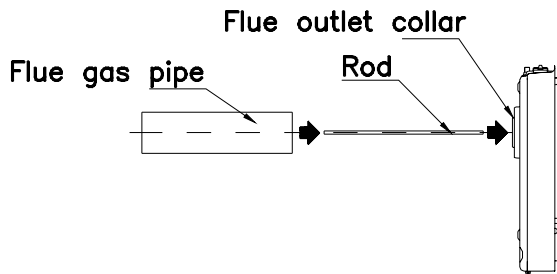

Fig. 10
- Screw the rod some turns in the nut of the flue outlet collar of the heater (Fig. 10) and insert the flue gas pipe 2 or 3 cm in the collar.